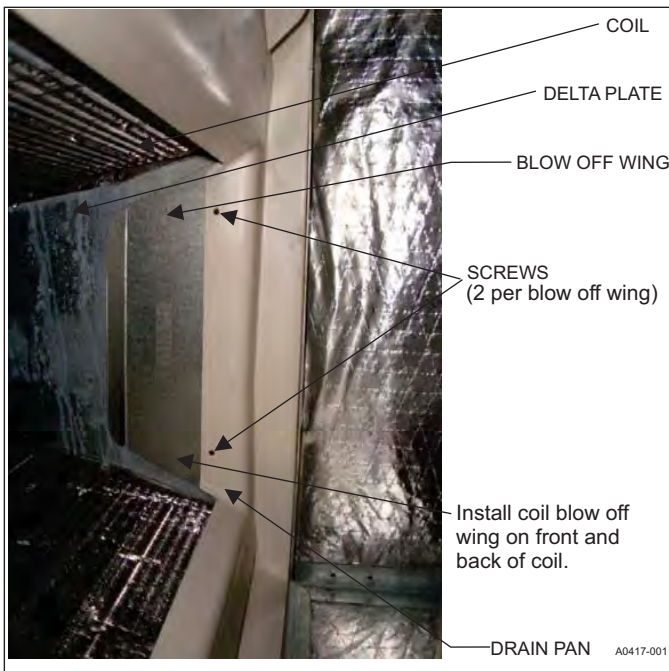

FIGURE 5: Coil Blow Off Wing Installation
- For horizontal right applications, the front and back coil blow off wings must be installed (blow off wings shipped in loose parts bag). Locate 4 screws securing coil delta plates to coil drain pan. Loosen the screws. Slide each coil blow off wing between the drain pan and the coil delta plate. Tighten screws to secure coil blow off wings. Refer to Figure 5.